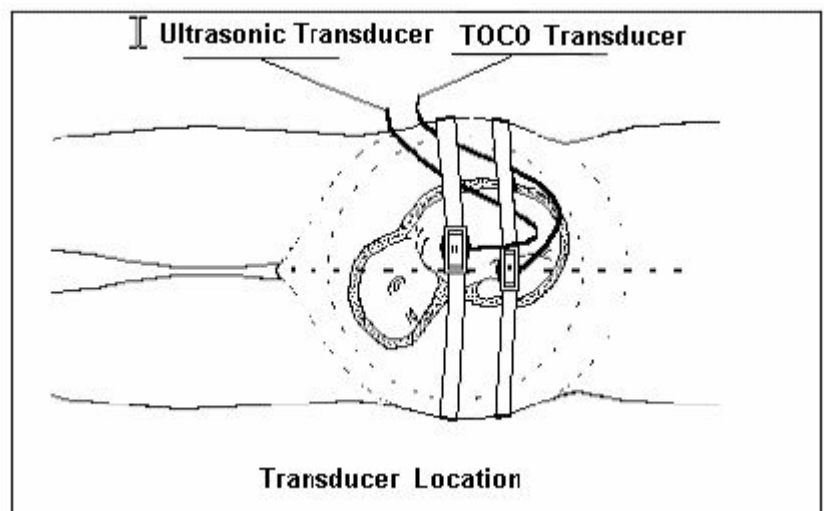

Figure 3.6 Ultrasonic and TOCO Transducer Location
2. Tie the abdominal belt on the patient, as shown in Figure 3.6.
2. Tie the abdominal belt on the patient and place the TOCO transducer in the middle position below navel, as shown in Figure 3.6.